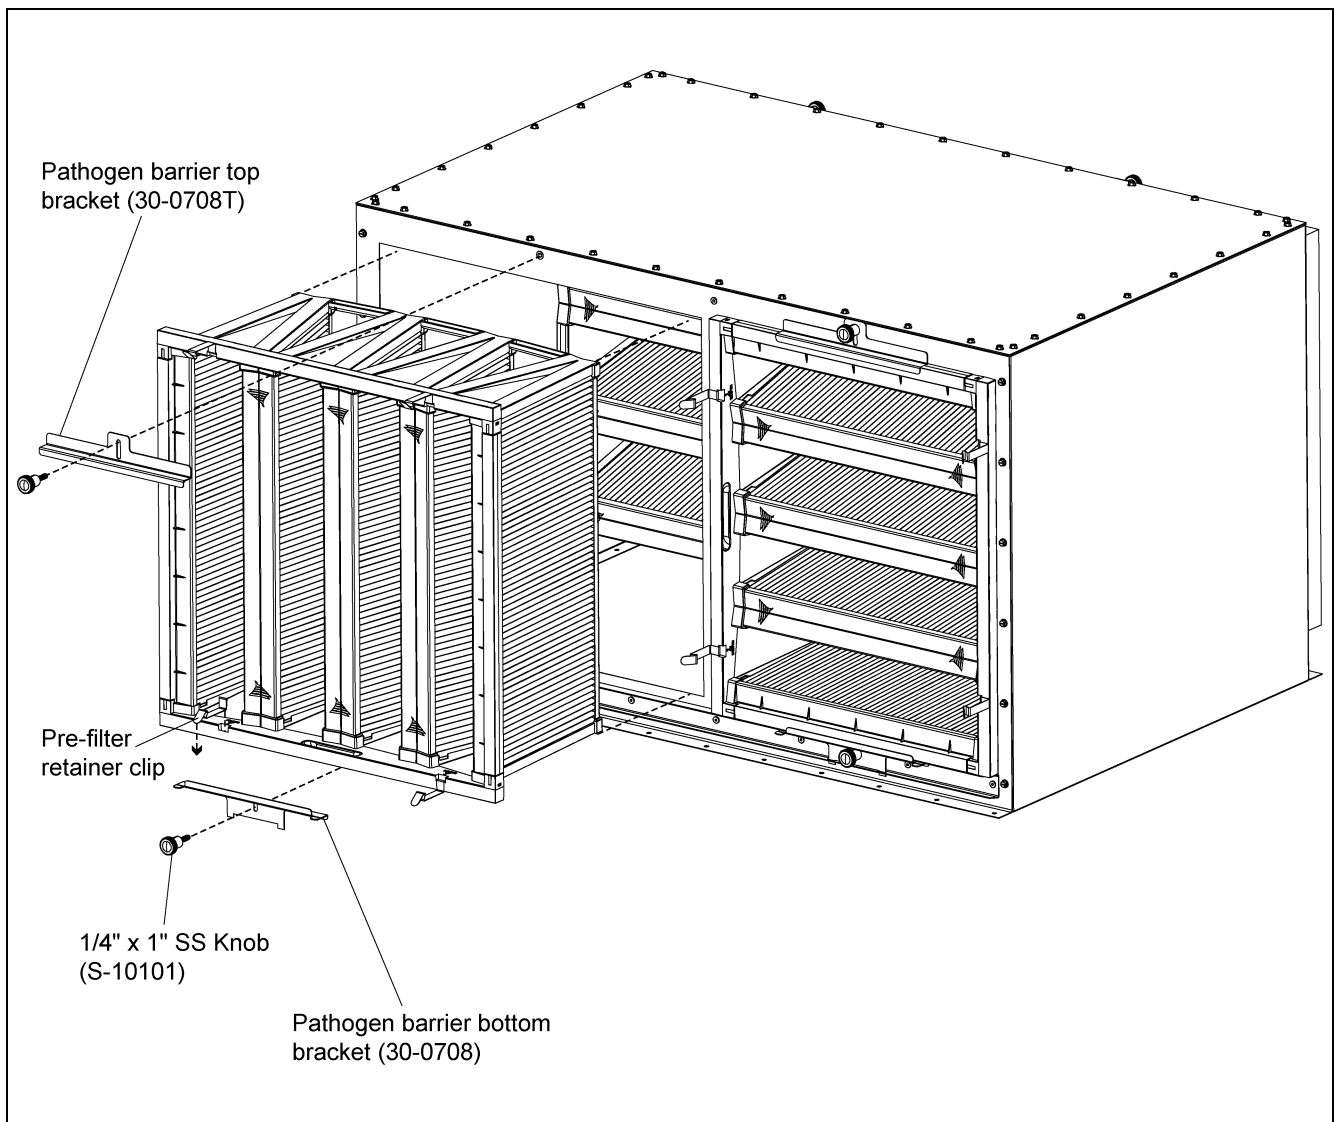

Figure 1G
2. Install pre-filter retainer clips into the pathogen barrier, sold separately, see manufacturers instructions. Place the L6/L9 pathogen barrier filters through the opening(s) allowing them to rest on the bottom filter retainer bracket(s). Note the direction of the pre-filter retainer clips on the filters. *(See Figure 1G.)*